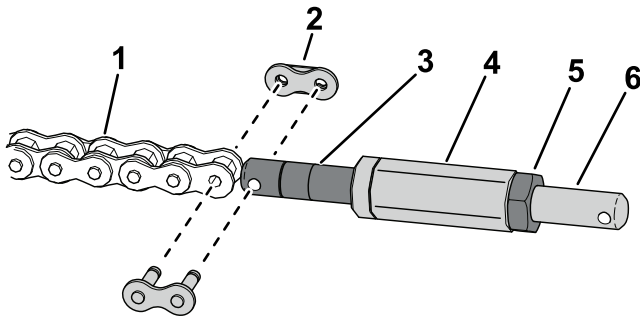

Figure 13
5. Use a chain link to install the chain to the chain turnbuckle (Figure 13).
6. Install the hex shaft to the chain turnbuckle (Figure 13).
7. Use a jam nut to install the chain-link turnbuckle to the hex shaft (Figure 13).